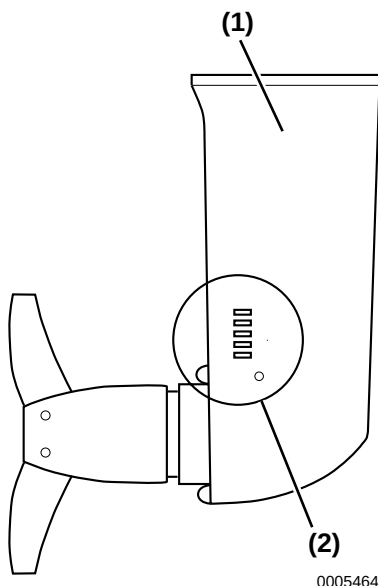

Figure 1
Remove seaweed, seashells and other marine growth from the lower gear case. Completely remove deposits around the cooling water intake **(Figure 1, (2))** since the engine may overheat if the cooling water intake amount is insufficient.